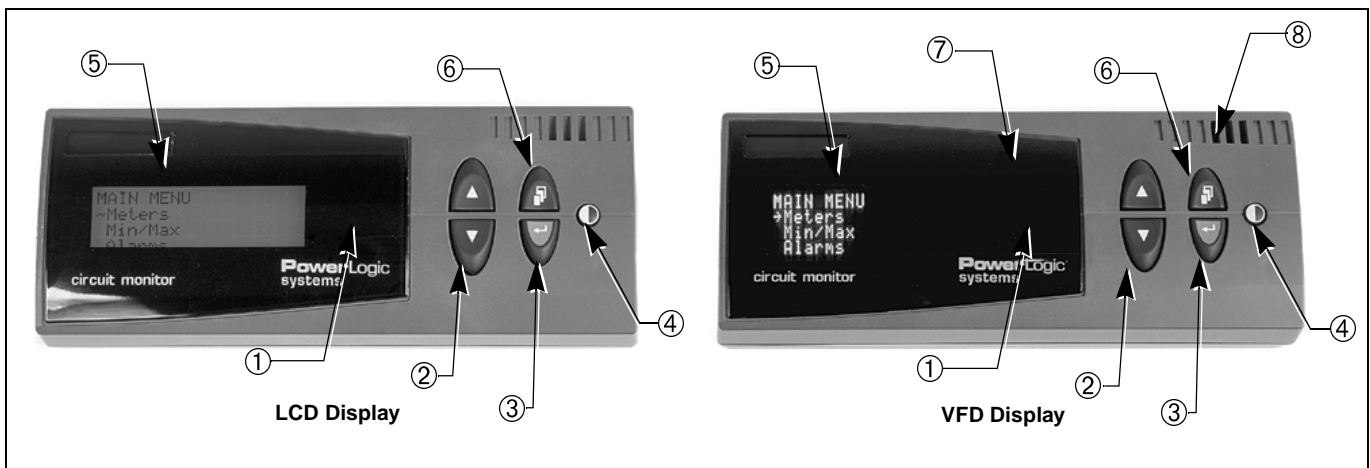

Figure 4-6 LCD and VFD Displays
- LCD display (see Figure 4-6)
- VFD display has an additional proximity sensor and infrared port (see Figure 4-6)